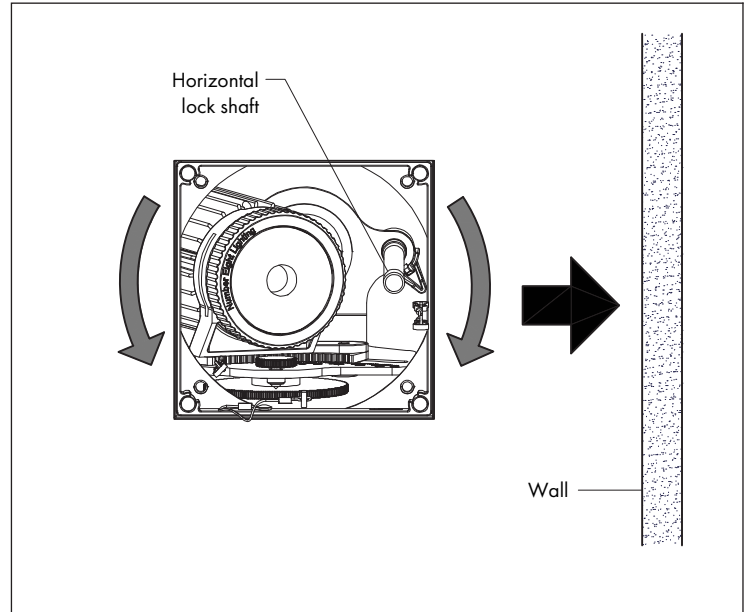

FIG 9.2 Adjust Horizontal position
STEP 2 Unlock & adjust horizontal position to aim light towards wall surface to be illuminated - **FIG 9.2**.